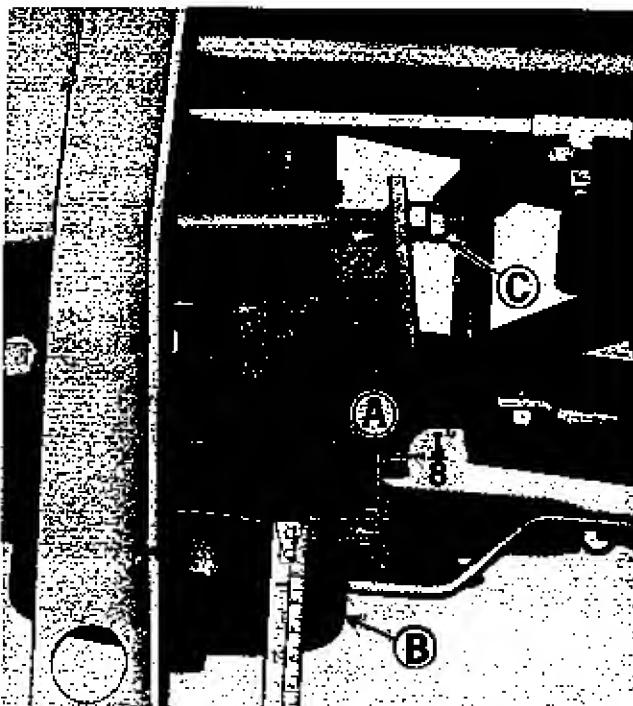

Figure 15. Power take off clutch.
See figure 15. The power take off clutch is properly adjusted when pulley (A) moves $1/8$ " when the power take off control lever is engaged and disengaged. If adjustment is required, proceed as follows: